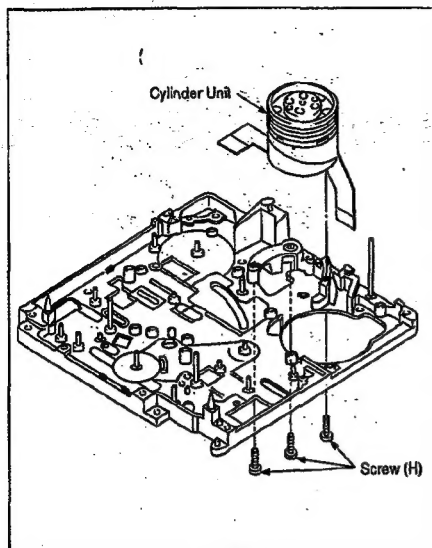

Fig. M7
| 5. Cylinder Unit | Fig. M7 | Unscrew 3 screws (H) and remove the Cylinder Unit carefully.